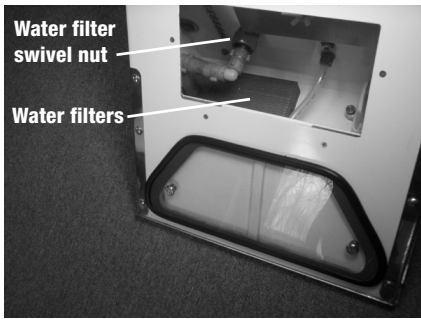
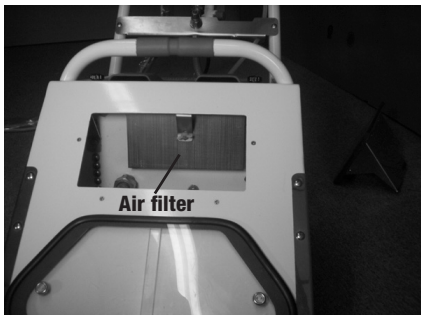
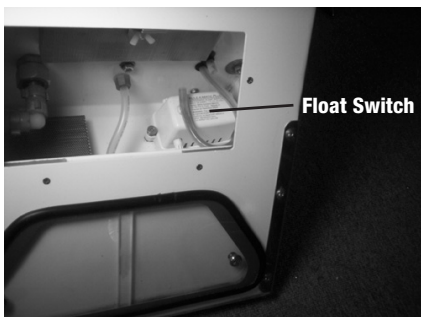
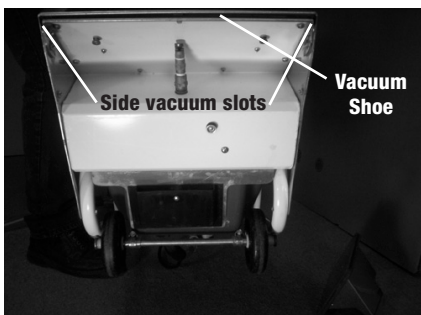

Figure 2: Water filters
Figure 3: Air filter
Figure 4: Float switch
Figure 5: Vacuum shoe
A. Cleaning the Machine- To ensure the proper performance of this machine certain critical areas must be cleaned daily. These areas being the water filter, float switch, air filter and the vacuum shoe (fig. 2, fig. 3, fig. 4 and fig. 5). If these areas are not cleaned on a regular basis you may as well throw the machine away as it will not perform properly. Instructions on how to clean these areas can be found on pages 6 and 7.